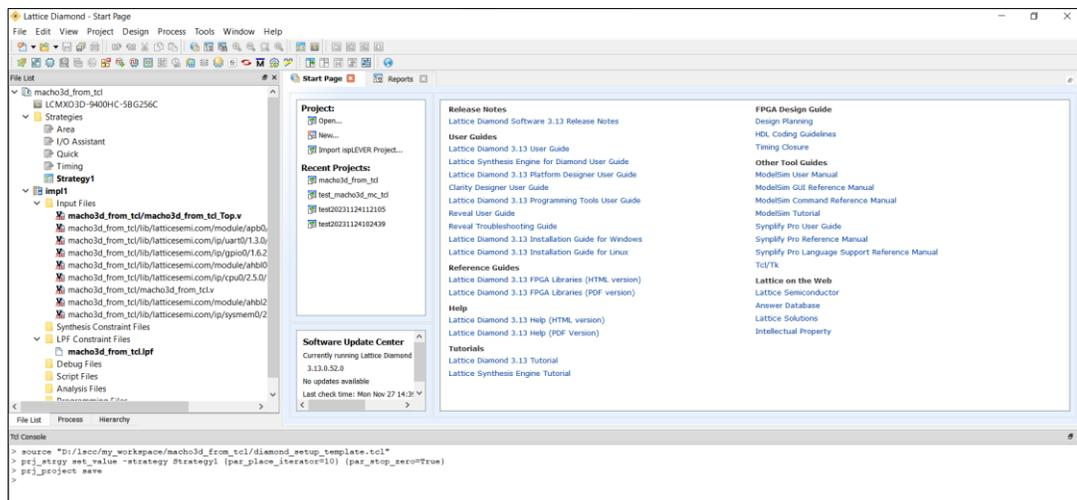

Figure 5.16. Diamond TCL Console
- f. Open Lattice Diamond software by clicking on the icon in Propel Builder GUI toolbar. Type the following command in the Diamond TCL console (Figure 5.16):